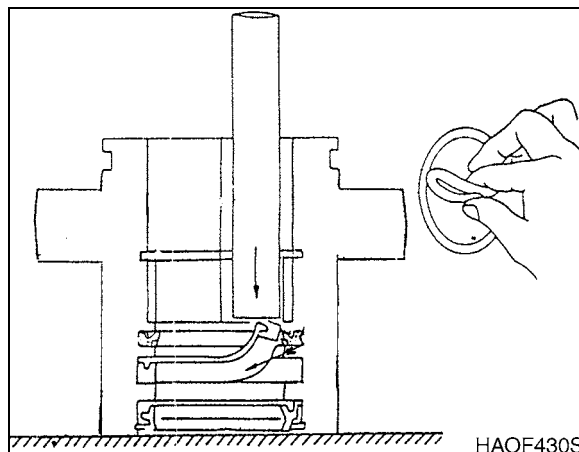

Figure 31
3. Prelubricate O-rings and seals before assembly (Figure 31).